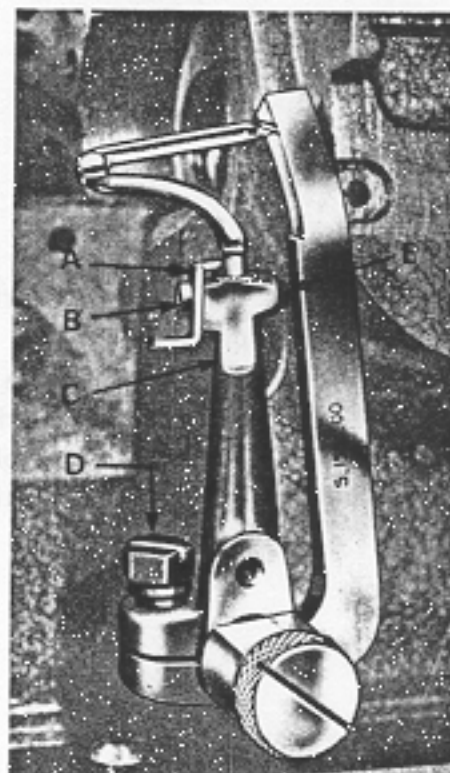

fig. 4
- S. 1665.00 for all operations except No. 4 (fig. 4)
- S. 1555.00 for operation No. 4 (fig. 4).
4. Setting lower looper (fig. 4).
- Firmly tighten screw E (fig. 4).